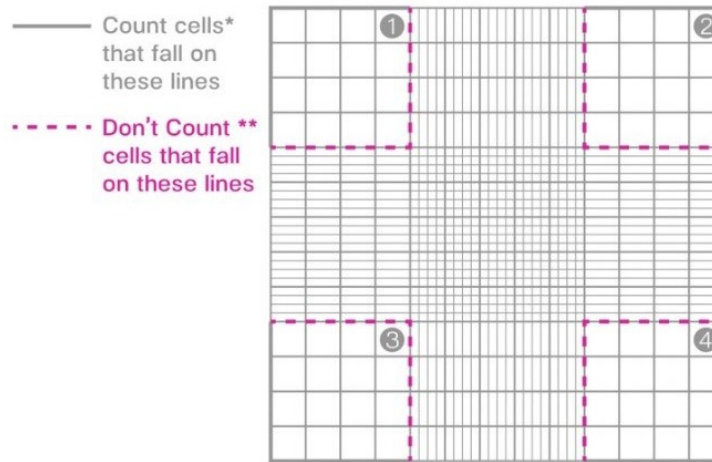

Figure 6. Example hemocytometer
- Count both viable and non-viable cells in each quadrant of the hemocytometer (see Figure 6).